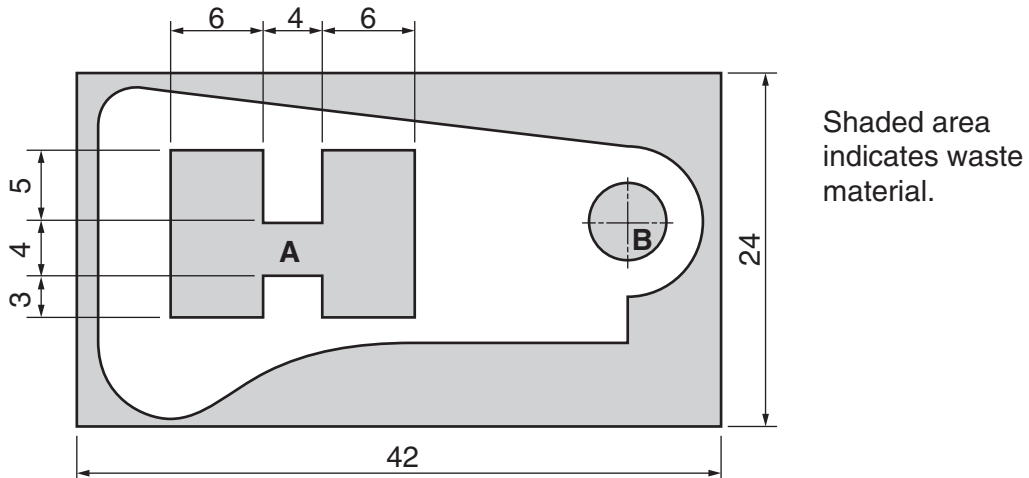

Fig. 1
- 1 Fig. 1 shows a lever plate for a lock, which has been marked out on a piece of $42 \times 24 \times 2$ thick bright mild steel.